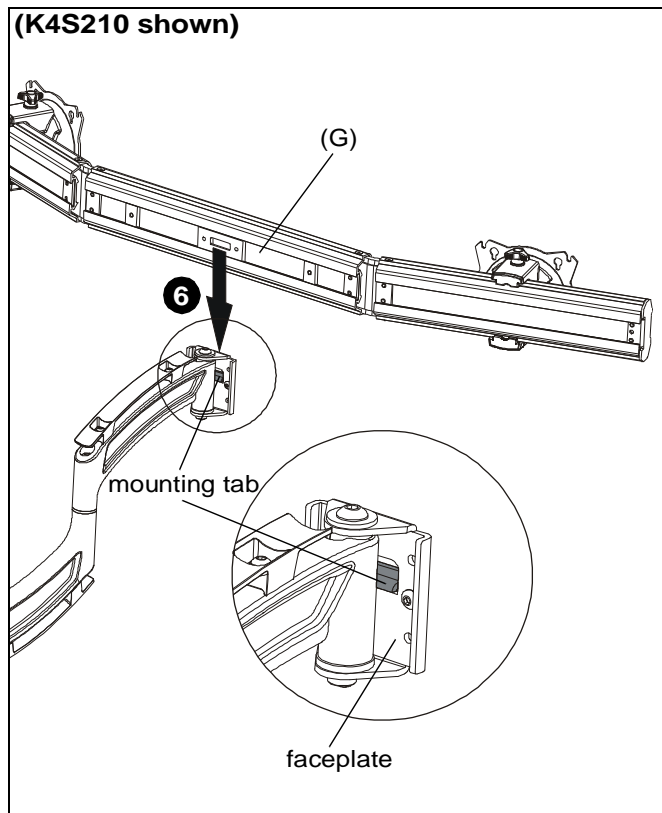

Figure 3
6. Hang array arm (G) onto column arm faceplate using the mounting tab on the faceplates. (See Figure 3)